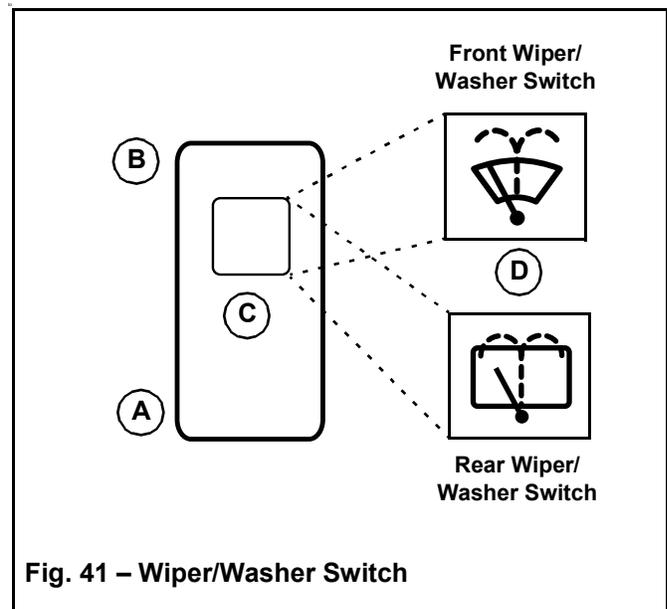

Fig. 41 – Wiper/Washer Switch
Press bottom (A, Fig. 41) of wiper switch (C) to activate the wipers. Press and release top (B) of wiper switch (C) to turn the wipers off.